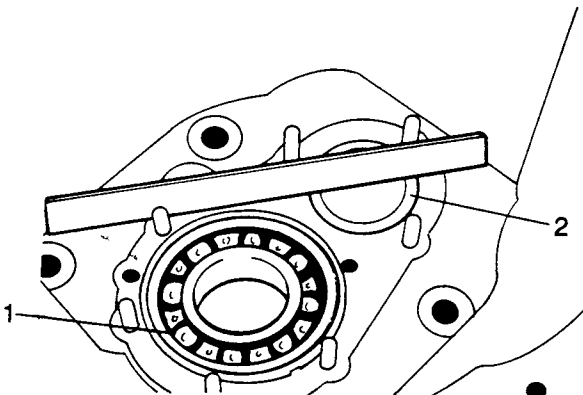

Fig H1.39
- (1) Refer to Fig H1.39. Fit the primary shaft bearing (1) in such a way so that the plastic ring butts against the frontal face of the casing.
- (2) Fit a new outer track of the front conical bearing (2) of the layshaft, in such a way that this is level with the inner front face of the clutch housing.